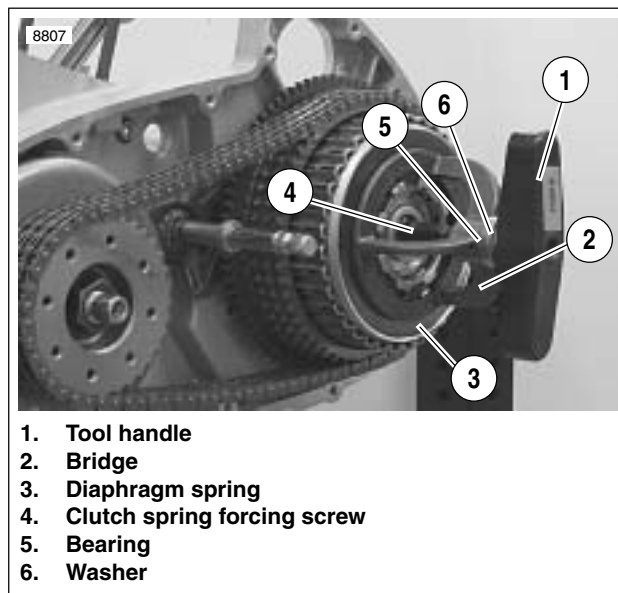

Figure 6-13. Compressing Clutch Diagram Spring
2. See Figure 6-13. Attach tools to compress clutch diaphragm spring.